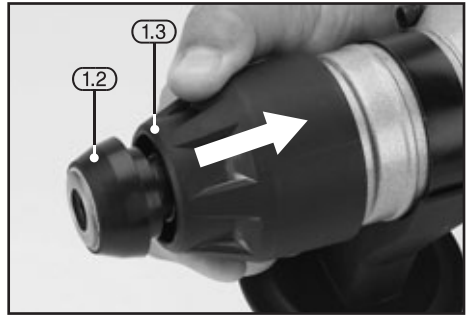

FIG.13
9.7 SDS+ SYSTEM – FIGS.13 – 14